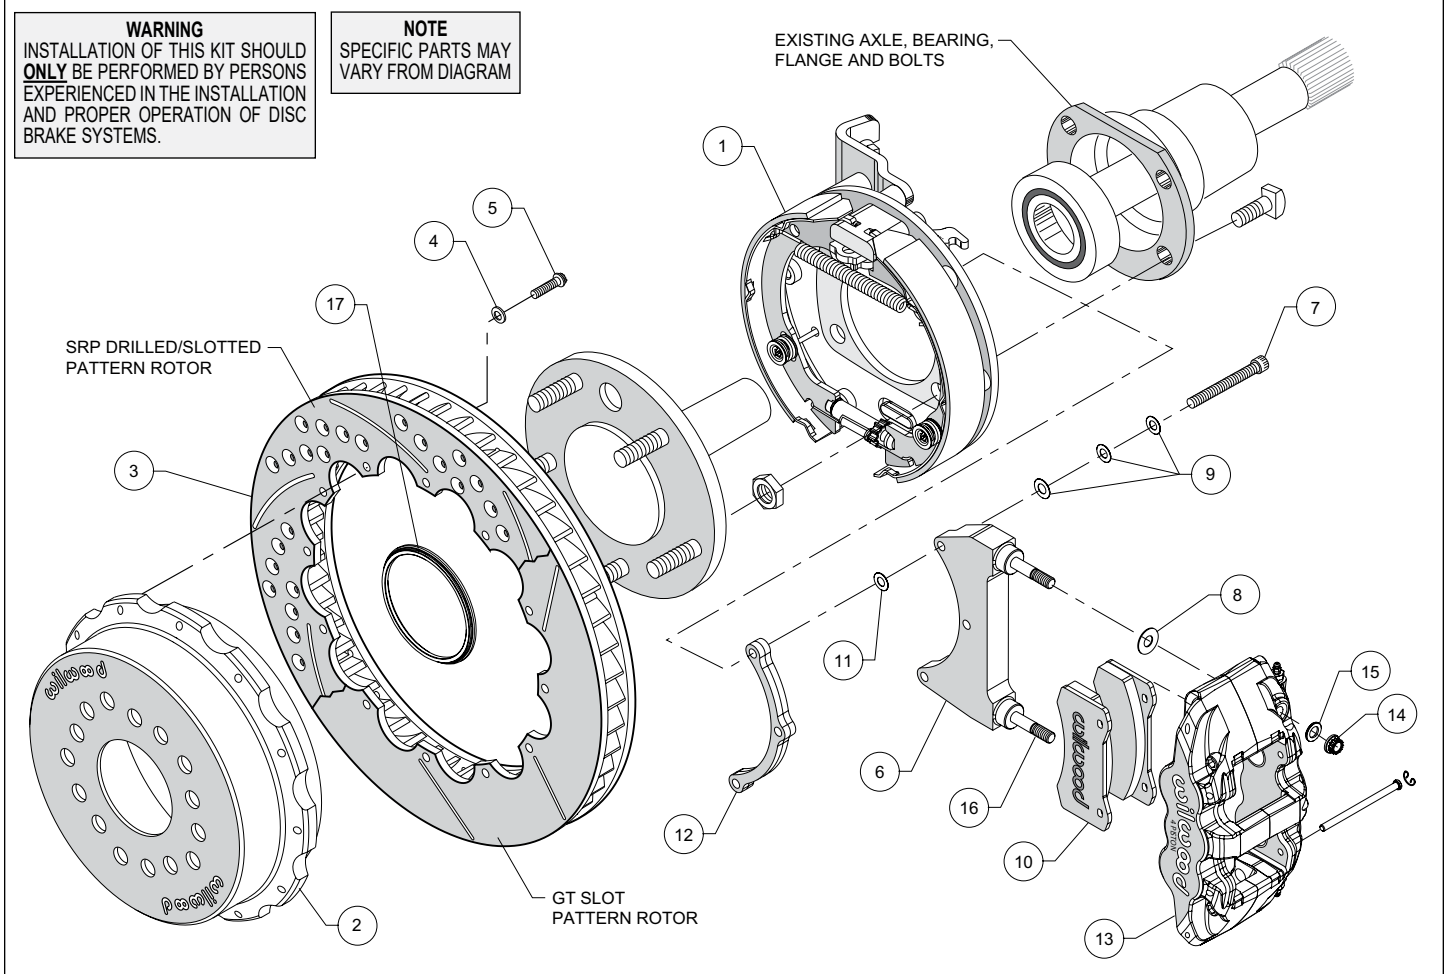

Figure 1. Typical Installation Configuration
- Slide the rotor registration adapter (17) onto the axle register on the axle flange with the smaller O.D. facing toward the rotor/hat (2). Align the correct hole pattern in the hat with the stud pattern on the axle flange. **NOTE: Some OEM and aftermarket axles come with stud sizes larger than 0.50" diameter.** Verify stud size and have a qualified machine shop drill the hats to the correct size, if necessary. Slide the hat/rotor assembly (2 and 3) over the wheel studs covering the bracket kit assembly (1) and against the axle flange face. Check to be sure the hat seats squarely against the hub. Install three lug nuts (finger tighten) to keep the rotor/hat assembly in place while continuing with the installation.
- NOTE: Please reference the caution statement at the beginning of the assembly instructions.** The caliper mounting bracket assembly (6) should be installed first with clean, dry threads on the mounting bolts (7). Install the bracket from the rear side of the bracket kit assembly (1) by sliding bolt (7) through three flat washers (9), bracket (6), shim washer (11) and finally through the spacer (12), see Figure 1. **NOTE: End of bolt should not exceed inside face of insert. The bracket must tighten squarely against the back side of the bracket kit assembly (1).** Inspect for interference from casting irregularities, machining ridges, burrs, etc. Use one thin shim (11) between the bracket (6) and spacer (12) during initial trial fitting.
- Lubricate caliper mounting studs and nuts with lightweight oil. Install one shim (8) over each pre-installed stud (16) on the radial mount bracket (6). Slide the caliper (13) in place over the studs and rotor, then install the washer (15) and lock nut (14) to hold the caliper in place. The caliper bleed screws should be pointing up. Snug the lock nuts (14) and check that the rotor (3) is centered in the caliper (13). Add or subtract .015" shims (11) as necessary between the caliper mounting bracket (6) and the spacer (12) to center the caliper (13).
- Remove the two pad retaining pins from the caliper (13) by carefully popping out the pin retaining clips and sliding out the pins. Insert the brake pads (10) into the caliper from the bottom, Figure 1. With the friction material facing the rotor, secure the brake pads in place with the pad retaining pins and clips. Reinstall the caliper onto the caliper mounting bracket and temporarily tighten the lock nuts. Check that the top of the brake pad is flush with the outside diameter of the rotor. If not, adjust by adding or subtracting shims (8) between the caliper and the bracket.
- Adjust the parking brake shoes outward (using a drum shoe adjustment tool available at your local auto parts store) while spinning the hat (2) until a slight drag is felt against the hat/drum. Remove the lug nuts that were holding the hat/rotor in place. Install the wheel and lug nuts. Check to see that the wheel rotates freely without interference.
- Once all clearances have been checked, remove the wheel, caliper, hat/rotor from the bracket kit assembly (1). Secure the caliper mounting bracket (6) to the bracket kit assembly (1) using red *Loctite*® 271. Torque bolts (7) to 180 **in-lb**. Reinstall the hat/rotor assembly and again use lug nuts to hold it in place. Reinstall the caliper, torque the caliper nuts (14) to 47 ft-lb.
- NOTE: Clevis and cable kits which attach to the parking brake assembly are not included in the Wilwood parking brake kit.** Wilwood offers a generic style parking brake cable kit, P/N 330-9371 for this application which can be ordered separately from your local Wilwood dealer or by calling Wilwood customer service at (805) 388-1188.